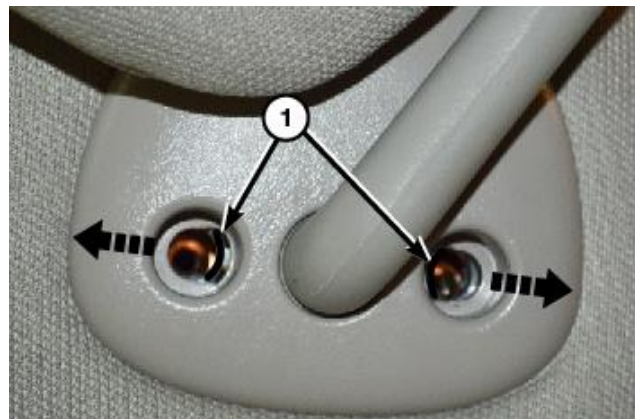

Figure 32 – Visors
Using a small flat bladed tool or equivalent, release the retaining tabs (1) and separate the visor from the headliner (Figure 32).